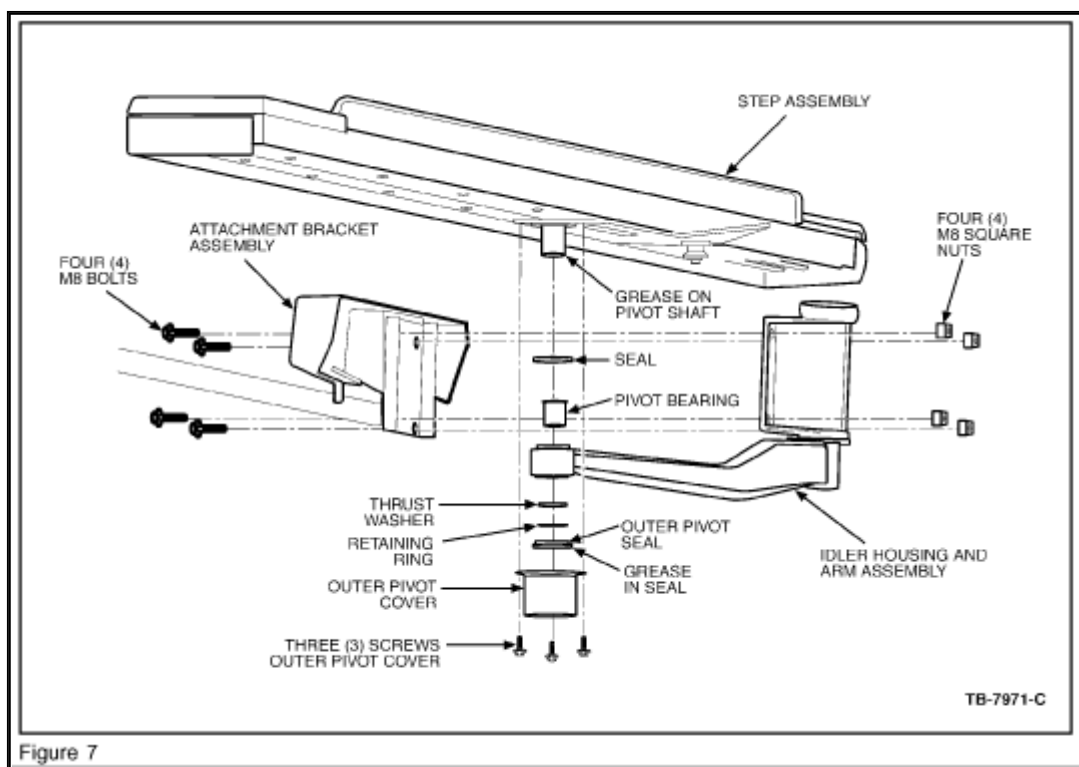

Figure 7
6. Before installing the new drive and idler unit, be sure that the seal is present and in the proper orientation, that the bushing is present in the pivot bearing, and that the outer pivot shaft is greased. (See Figure 7 for reference)